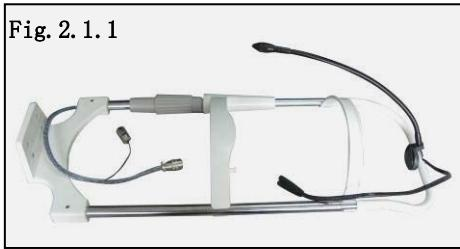

Fig.2.1.3
9. Take out the slit lamp part (Fig.2.1.3), put it on the rails of the table board, check whether the wheels can be rolled steadily on the rails. (Fig.2.2.5), place the rail
12. Insert the plug on the top of the headrest part (Fig.2.1.1) into the socket of the lamp cap (Fig.2.1.3) on the illumination part.